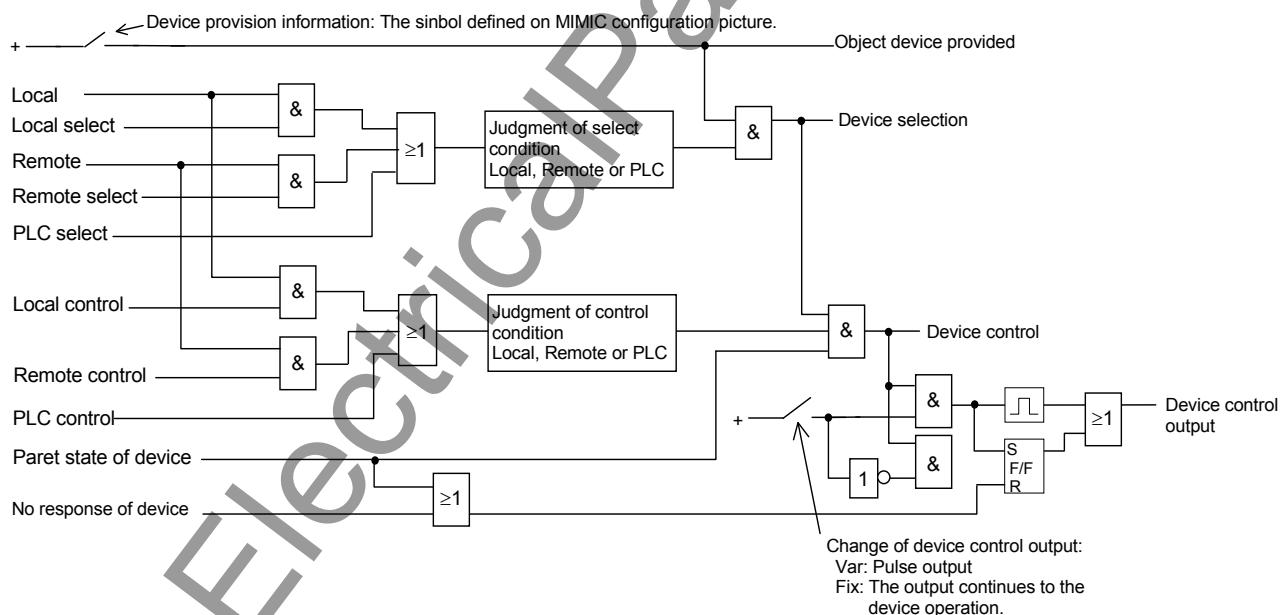

Figure 2.6.3 Overview of Select and Control Operation Logic
Figure 2.6.3 shows the overview of select and control operation logic. The GRD150 selects an object device according to the remote, local or PLC command signal and controls the object device by the remote, local or PLC control output. The control output is performed by a binary output (BO) assigned by PLC function.